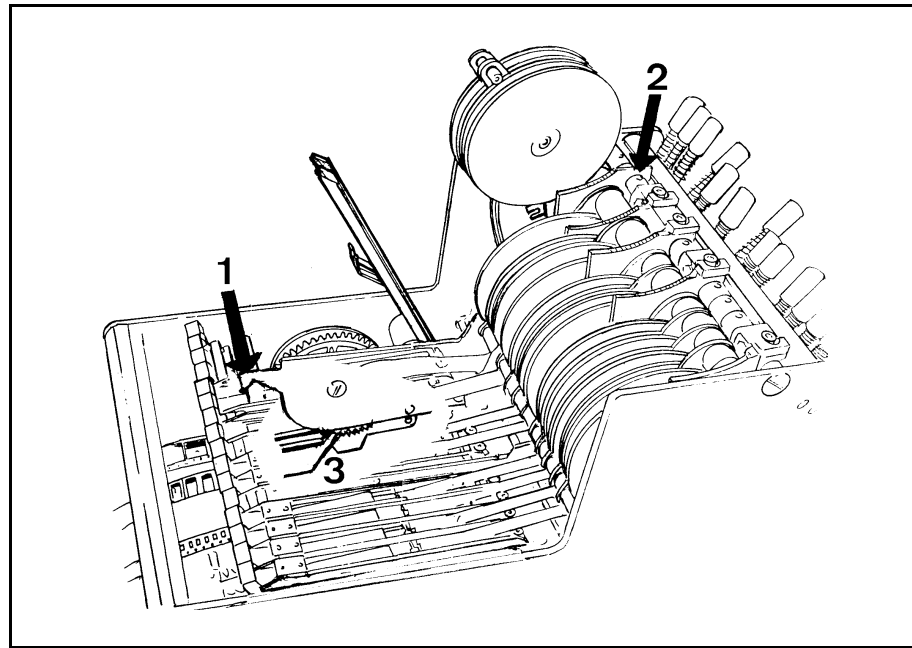

Figure 5-31. Inserting the feeder mechanism.
1. Hold the cover tape take up reel and the pick-up rail and position the feeder in the magazine. First, position the lower bracket to the axle groove ('1' in Figure 5-31) and then the upper bracket (2).